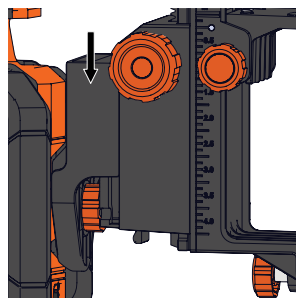

Figure 31
4. With laser attached, slide laser mount on to track mount until it clicks into place. (Figure 31)